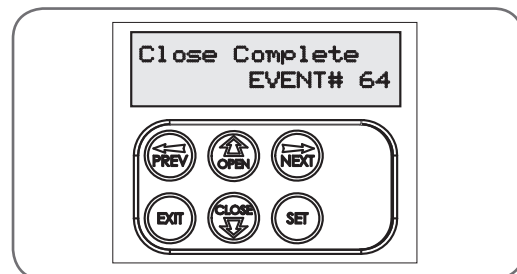

Fig D.5
The NeoSlider™ keeps a record of the last 64 events that have taken place. The events include the type of drive cycles executed, obstruction detection, various faults, power failures etc. When this tool is selected, the screen displays the last event that occurred (**Fig. D.5**). Press NEXT or PREV to view each event. The "EVENT#" field shows the sequence of the events, with (1) being the first and (64) being the last. The example shows that the last event was a close cycle which succeeded in closing the gate. When finished viewing the events, press EXIT.